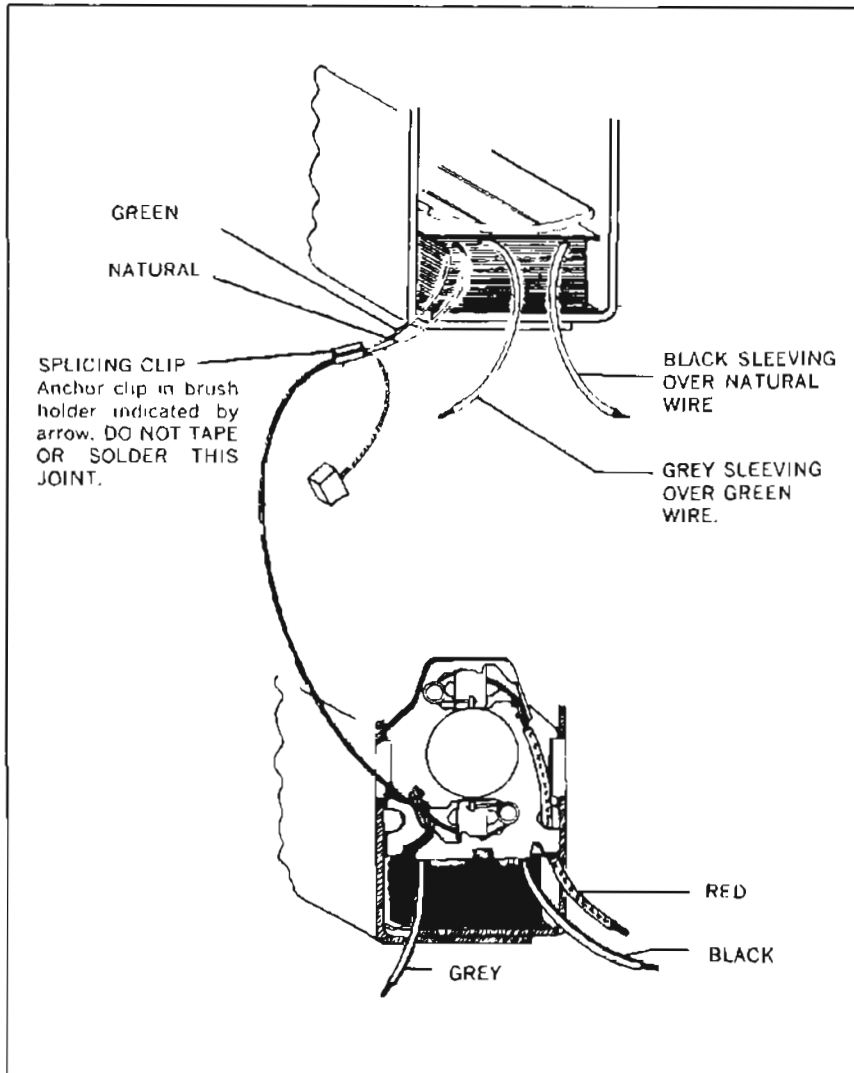

Figure 10-87—Two Speed Motor Wiring
**5. Wiper Crank Arm Does Not Return To Park Position When Wiper Is Turned Off. Park Position is shown in Figure 10-87.** Check for dirty, bent or broken park switch contacts.
Except for the internal wiring to the wiper terminal board, the disassembly and assembly procedures for the two speed wipers covered in this section are the same as those outlined for the single speed wipers in paragraph 10-56 of this manual. See Figure 10-87 for internal wiring.